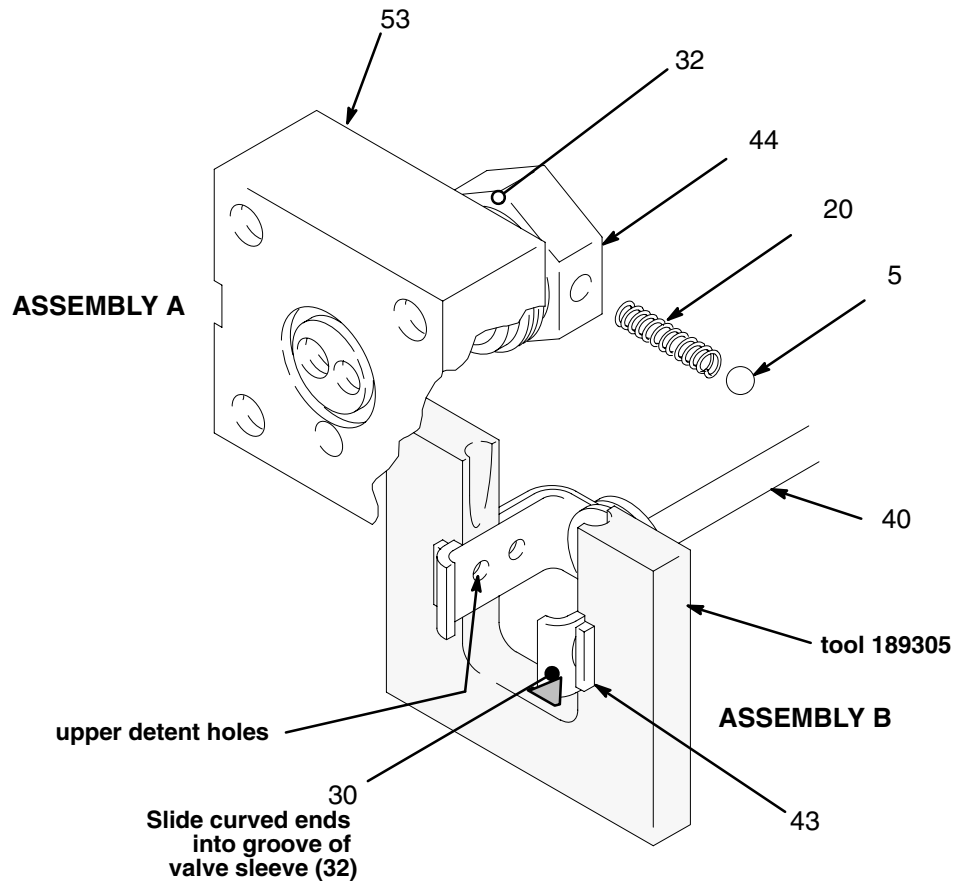

Fig. 9
13. See Fig. 9. Lay Assembly A and Assembly B on the workbench.
14. Slide Assembly B into the center of the tool. Align the upper detent holes of the guide yoke (43) with the center line of the tool. See Fig. 9.
15. Insert the spring (20) and one ball (5) into the valve stop (44) of Assembly A. Tilt the valve stop and start guiding it into the tool, making sure the ball is sliding into the rounded slot in the tool. Place the other ball at the other end of the spring and push it in with your thumb while rotating the valve stop (44) until the spring is horizontal and the balls are in place. Continue holding this assembly together. See Fig. 9.
16. Slide the valve stop assembly down into the tool. Make sure the balls (5) snap into the upper set of holes in the yoke (43), and the curved ends of the guide clamp have engaged the valve sleeve (32) groove. See Fig. 9. Slide the tool back over the rod (40) to remove it.